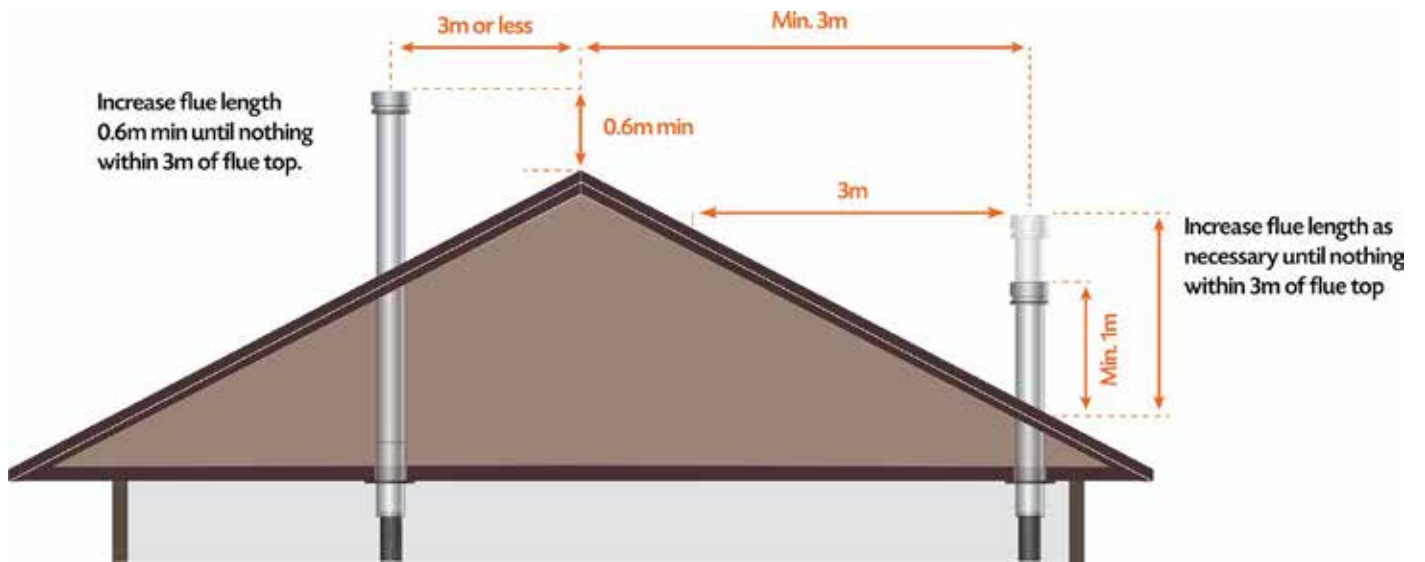

FIGURE 1
7. Add the remaining casings to the required height. Australian/New Zealand Standards state that “the flue pipe shall extend not less than 4.6m above the top of the floor protector”. If the flue pipe is within 3 metres of the ridge, the flue pipe must protrude at least 600mm above the ridge of the roof. If the distance from the ridge is more than 3 metres, the flue pipe must protrude at least 1000mm above roof penetration. Additional lengths of casing and flue may be required to achieve this. The flue pipe must be more than 6 metres from any nearby structure. Other clearances may be applicable, it is up to the installer to ensure compliance with all regulations. See Figure 1 and 2 on P7.